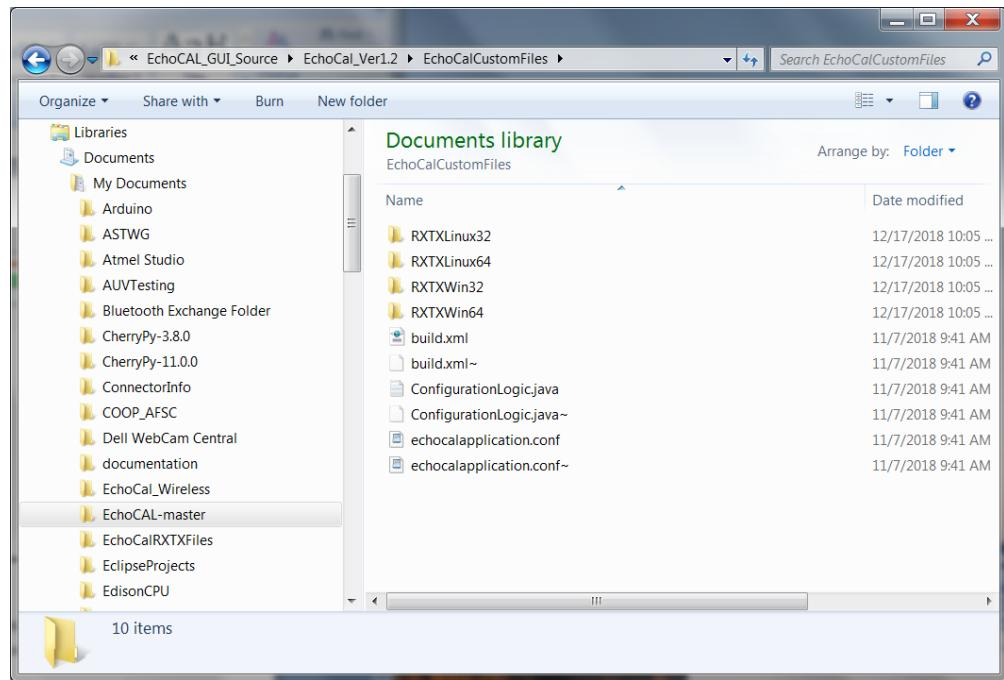

Figure 25: “EchoCalCustomFiles” folder contents.
- 1) Navigate to the folder “EchoCAL-Master/EchoCAL_GUI_Source/EchoCAL_Ver1.2/EchoCalCustomFiles”. (Figure 25)